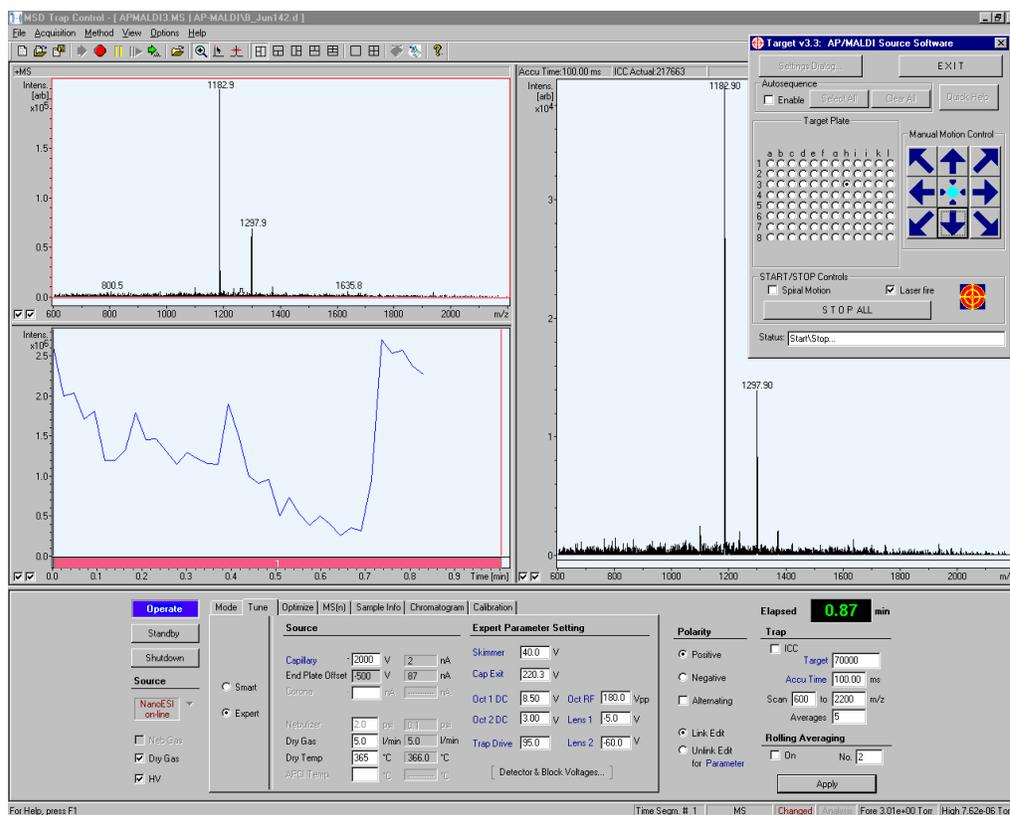

Fig. 6-5
- Fig. 6-5 represents a screen copy made during an AP/MALDI spectrum measurement. You can easily switch between the *Esquire 2000/3000 Trap Control* and **TARGET** programs to operate both the Esquire 2000/3000 and AP/MALDI source from the same computer. Or alternatively, separate computers can be used to run **TARGET** software and operate AP/MALDI.